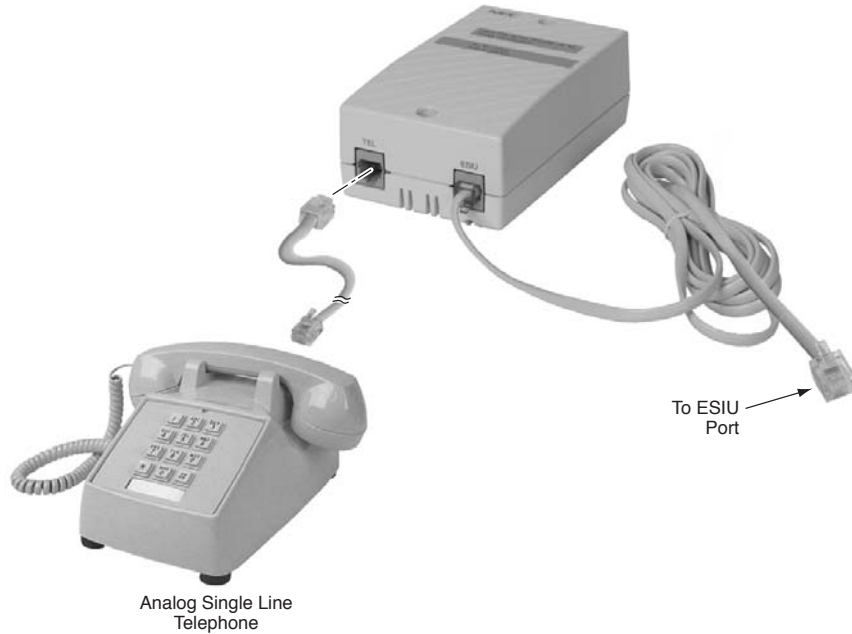
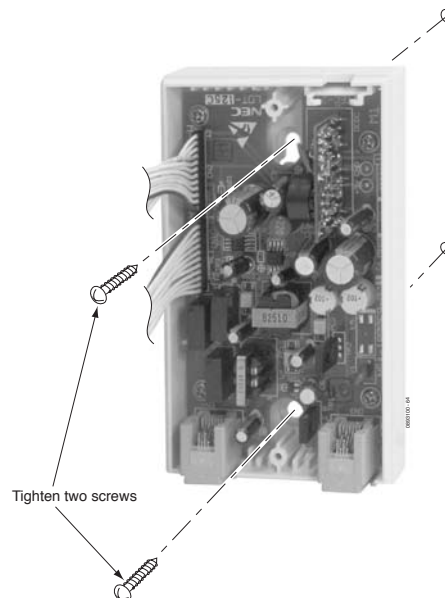

Figure 4-32: INSTALLING THE SLT ADAPTER
Figure 4-34: ATTACHING THE UNIT
4.16.1 Using the SLT Adapter (Figure 4-32 - Figure 4-34) - P/N 0891026